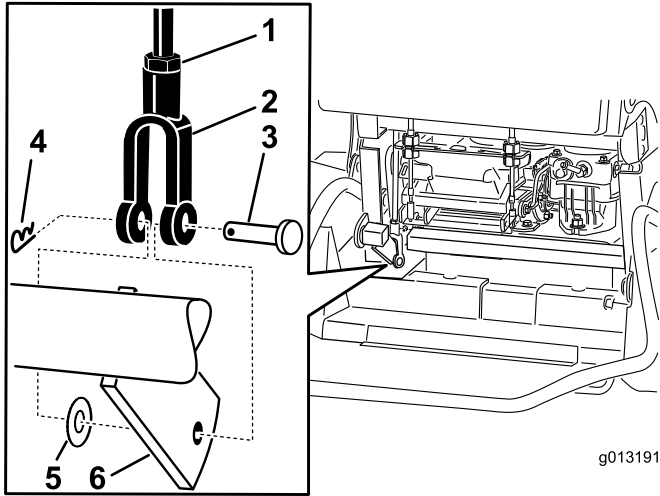

Figure 63
5. To adjust the brake, remove the hair pin cotter and clevis pin from the lower brake lever and yoke (Figure 63).
6. Loosen the jam nut (Figure 63).
7. Rotate the yoke. To tighten the brake, rotate the yoke up. To loosen the brake, rotate the yoke down (Figure 63).
8. Secure the yoke to lower brake lever with the hair pin cotter pin and clevis pin (Figure 63).
9. Tighten the jam nut (Figure 63).